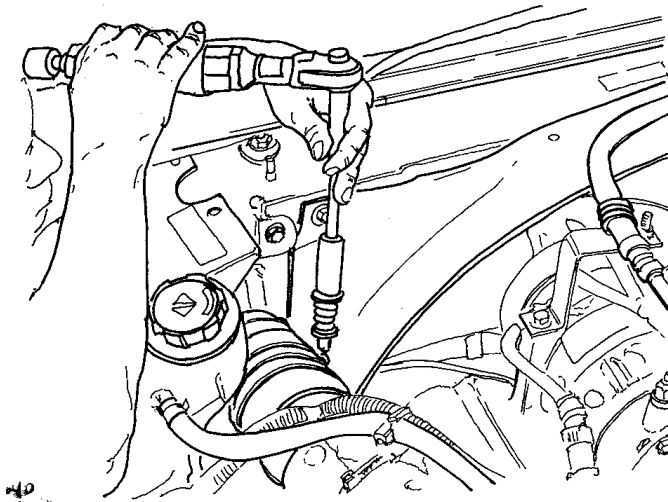

Figure 12 Driver Side Tension Spring Clamp Removal
6. Follow the same procedure for driver side charge air cooler (Figure 12) connection.